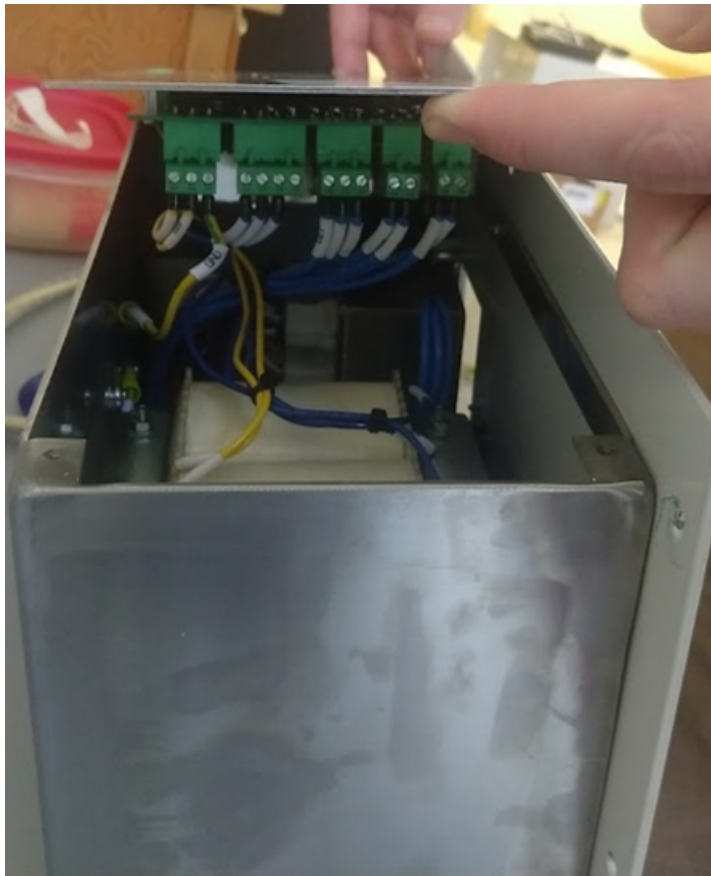

Figure 4: The pin terminals that need to be unplugged
7. Remove side panel and carefully unplug the 5 pin terminal blocks (13 pins total) as shown in Figure 4 and Figure 5. The cable ribbon is often glued, and will likely need to stay attached.